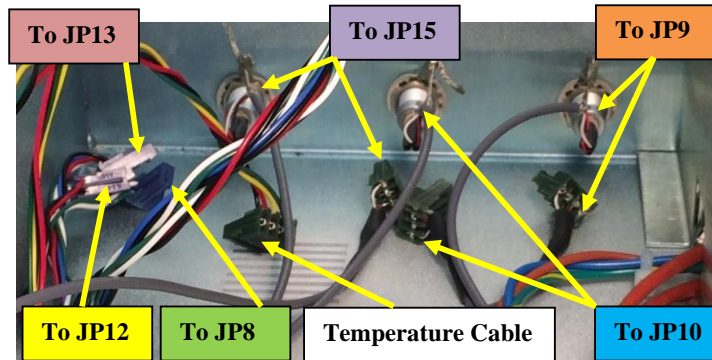

Figure 44
- 17.2. Connect the Doppler Cable on the Chassis to JP15 on the motherboard as shown in Figure 44 (purple block).
- 17.3. Connect the Left PPG Cable on the Chassis to JP10 on the motherboard as shown in Figure 44 (blue block).
- 17.4. Connect the Right PPG Cable on the Chassis to JP9 on the motherboard as shown in Figure 44 (orange block).
- 17.5. Connect the Temperature Cable (green/yellow/red/black) on the Chassis (shown in white block of Figure 44) to JP1 on the motherboard.
- 17.6. Connect the Headphone Jack Cable (black/red/blue/green/white) on the Chassis to JP8 on motherboard as shown in Figure 44 (green block).
- 17.7. Connect the cable from the Right Speaker (red/black) on the Chassis to JP12 as shown in Figure 44 (yellow block).
- 17.8. Connect the cable from the Left Speaker (green/white) on the Chassis to JP13 as shown in Figure 44 (pink block).